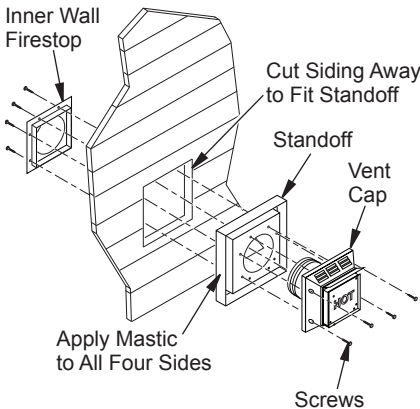

Figure 12 - Installing Siding Standoff (Combustible Exterior Wall)
- 6. Combustible Exterior Wall:** For vinyl siding, stucco or wood exteriors, a siding standoff may be installed between the vent cap and exterior wall. The siding standoff prevents excessive heat from damaging the siding materials. Siding material must be cut to accommodate standoff. Bolt the vent cap to the standoff. Apply nonhardening mastic around outside edge of standoff. Position the standoff/cap assembly in the center of the 10³/₄" square hole and attach to exterior wall with wood screws provided (see Figure 12). The siding standoff must sit flush against the exterior fascia material.